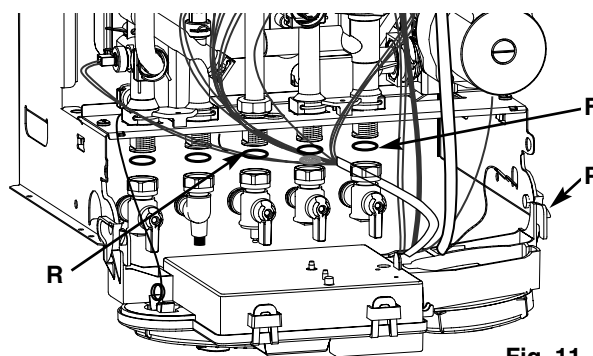

Fig. 11
Place the boiler on the wall on the hanging bracket. If required, there is space for all piping to pass behind the boiler. Using fig. 11 for reference, connect the gas and water pipes and the valves to the base of the appliance using the tails provided. There is a 190 mm space between the valves and the wall to make these connections.
- Push in the tabs "P" (fig. 11) on either side of the boiler and pivot the electrical box forward to gain access to the valve connections